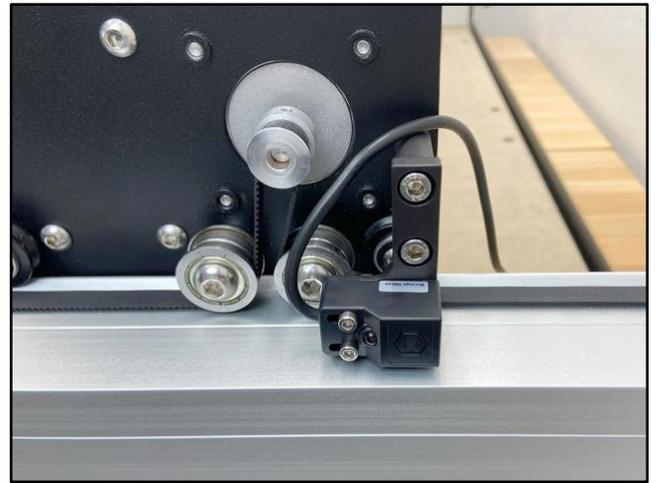

Figure 29
1. Install the Y-Axis proximity switch mount to the outside of the Y2-carriage. See **Fig. 29**.
- a. Use a 4mm hex key and two (2) M5×35mm SHCS to secure the mount to the outside of the Y2-carriage.
2. Attach Y-Axis proximity switch to the mount. See **Fig. 29**.
- d. Use a 2.5mm hex key and two (2) M3×18mm SHCS to secure.